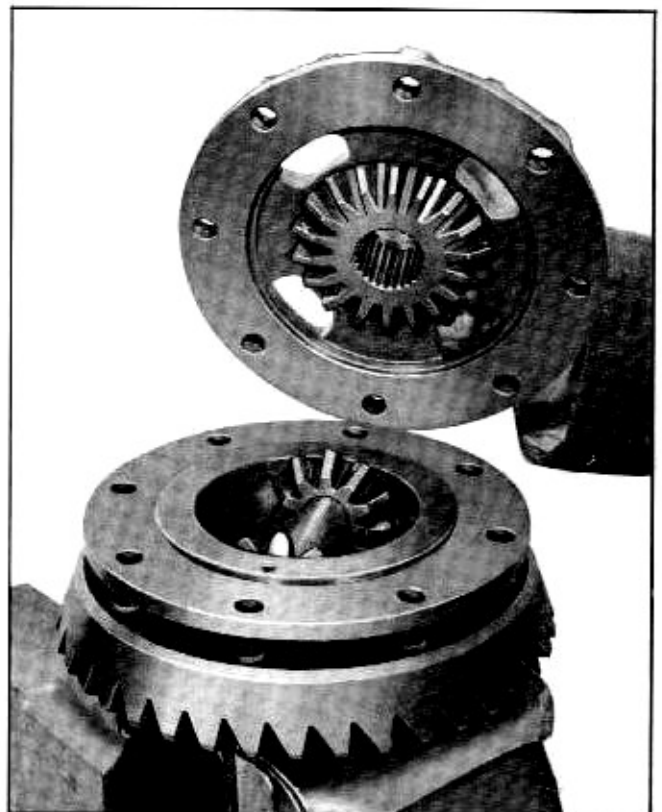

Fig. 4-28 Separating Cover and Case
6. Separate cover and case (Fig. 4-28).